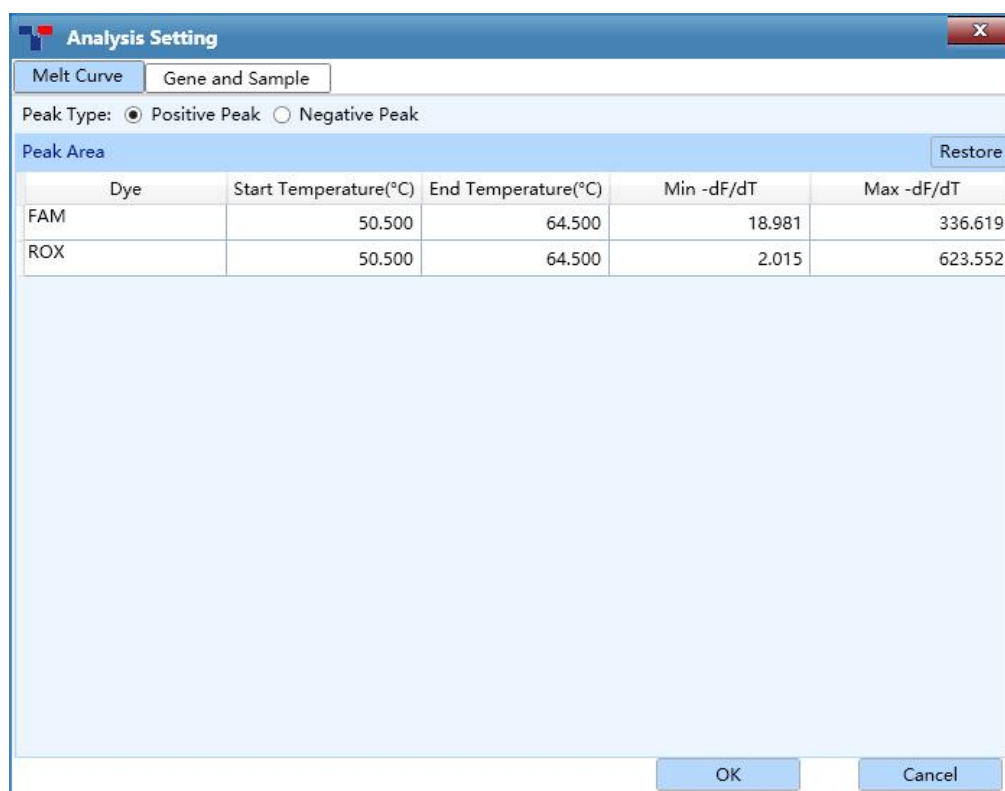

Figure D-13.3. Melting Curve Analysis Setting Interface - Melt Curve Tab
I. **Melt Curve** tab: display the parameter range of each peak area on the melting curve, as shown in figure D-13.3.